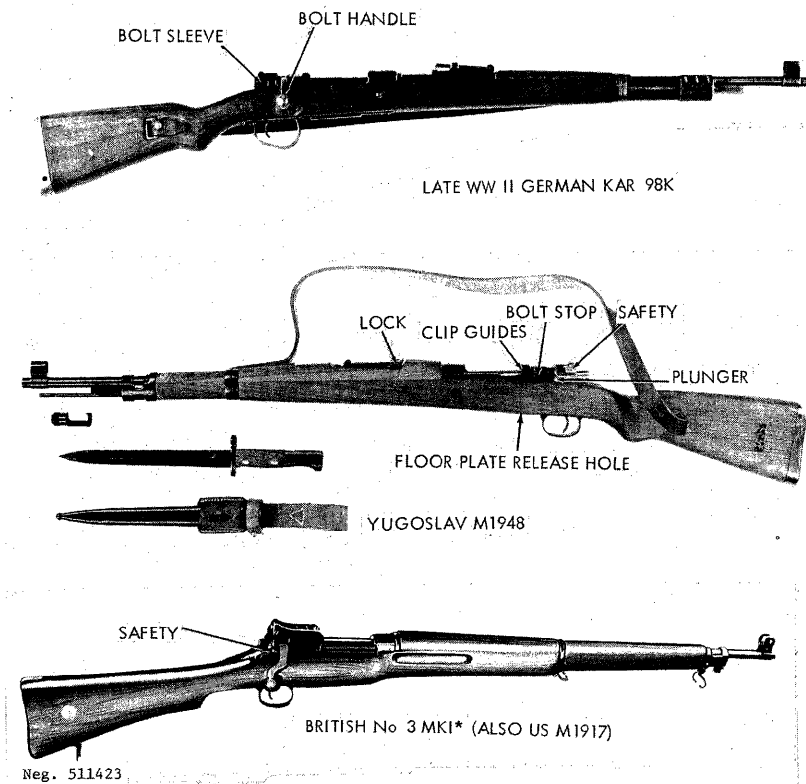
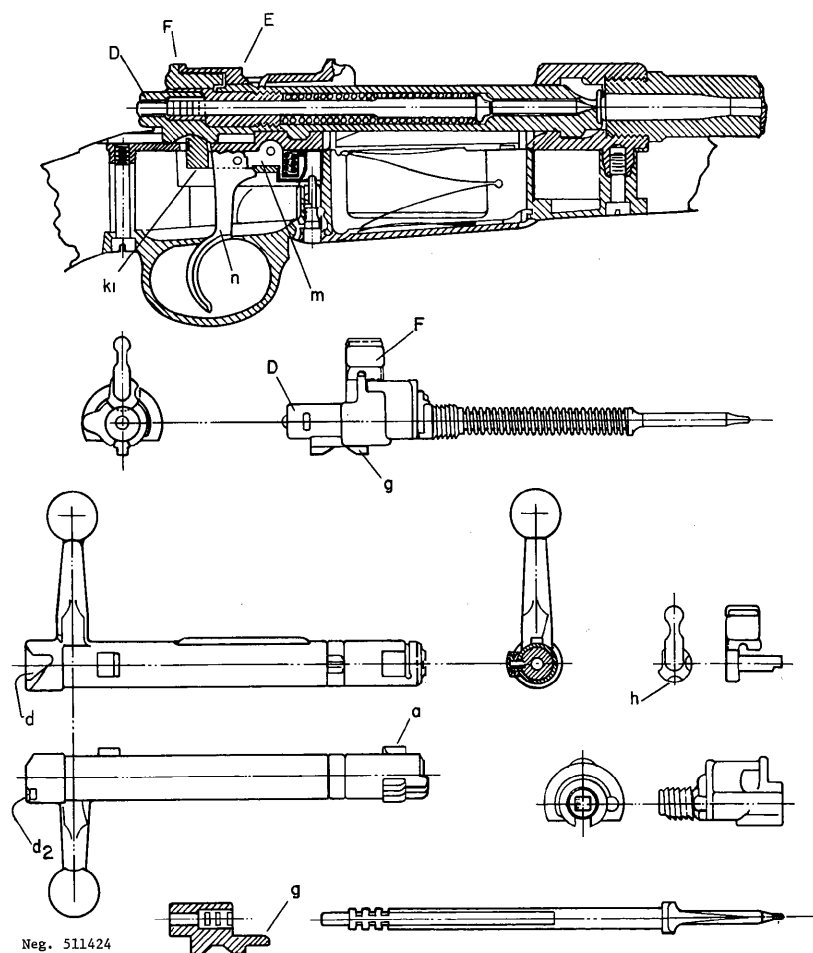

Figure 124. Typical Mauser rifles.
Figure 125. Mauser rifle section.
a. The Mauser Model 1898 rifle (fig 124) was the final refinement of a series of German rifles whose basic design began in 1871. The 1898 was developed just before the turn of the century, and after final improvements (in the early 1900's), its use spread throughout the world. There are few nations who did not use the 1898 or a rifle whose design was based on it. The prime producer of this rifle was Germany, but many other nations produced it under license. Belgium, Spain, Czechoslovakia, Poland, China, and Yugoslavia were the major non-German producers; however, the Mauser company exercised close supervision over production, and as a result, most of these rifle parts are interchangeable regardless of country of manufacture. This results in some current 1898's bearing markings of several countries. In addition to true 1898's, variants such as the US M1903 and 1917 rifles and the British No. 3 Mark 1\* are based on the 1898 design. The final model of the original 1898 Mauser is the Yugoslav M1948 rifle (fig 124).
a. Open the bolt by turning the bolt handle (fig 124) up as far as possible; then pull the bolt fully rearward.
b. Load the magazine by placing a charger clip of five cartridges into the clip guides (fig 124). Hold the thumb as close as possible to the charger clip and press the cartridges down into the magazine. If desired, remove the clip and save it for reuse; otherwise, the forward movement of the bolt will expel it. If clipped ammunition is not available, place individual cartridges on the magazine follower and press them down until they roll sideways under the feed lips. Repeat this action until five cartridges have been loaded into the magazine. To prevent damage to the extractor, always load by inserting the cartridges, even single ones, into the magazine; never load cartridges directly into the barrel.
d. If desired, make the rifle safe by swinging the safety (fig 124) to the right; this locks the firing pin and bolt. On US M1917 and British No. 3 Mark 1 (fig 124) rifles, rock the safety to the rear.
e. To fire the weapon, swing the safety to the left, or press it forward (US M17 type), set the sights for the desired range by pressing the locks (fig 124) and sliding the bar along the sight leaf until the top of the bar is aligned with the number on the leaf corresponding to the range in hundreds of meters. (Lift the leaf up before doing this on the M17 or No. 3 rifles.) Using a normal sight picture, aim and squeeze the trigger. The rifle will fire one shot.
a. When disassembling the weapons, unload (para 149g) but do not pull the trigger. On an M17 or No. 3, open the bolt, set the safety to the rear, and close the bolt as far as possible. Insert a coin between the firing pin nut and bolt sleeve. On all other rifles, leave the safety in the vertical position. Open the bolt and press the bolt stop (fig 124) outward. Hold the bolt stop out and pull the bolt from the rifle.
b. On the left side of the bolt sleeve (fig 124) there is a plunger (not present on M17 or No. 3 rifles); press it in. Unscrew the bolt sleeve and pull the firing mechanism from the bolt.
c. Using the point of a cartridge, press in on the floor plate catch through the hole (fig 124) in the floor plate.
b. As the bolt handle is turned upward, a cam in the rear of the bolt (d, fig 125) forces the firing pin nut and firing pin rearward, compressing the firing spring. The root of the handle also cams against the receiver to provide powerful leverage for initial extraction of the fired cartridge. The firing pin unit has a lug on its underside which overrides the sear when the handle is turned fully up.
d. The zigzag magazine spring has forced a fresh cartridge up, under the receiver feed lips. As the bolt is shoved forward, it pushes the cartridge out of the magazine, and the cartridge rides up the bolt face under the extractor. The locking lugs (a, fig 125) are reseated in their abutments in the receiver by rotating the bolt handle downward.
e. The trigger (n, fig 125), is pinned to the sear (m, fig 125), and has two humps on its top where it bears against the bottom of the receiver. When the trigger is pressed, the front hump (closest to the pin) acts as a lever to move the sear down. At this stage, the trigger pull has been very light, but as the second hump, at the rear of the trigger contacts the receiver, a definite stop is felt and increased trigger pressure is necessary to completely disengage the sear from the lug on the firing pin nut. When these disengage, the firing spring drives the firing pin forward and fires the cartridge.
f. This rifle has two safety features: the manual safety and an automatic safety. The manual safety (fig 124) is operated by swinging it to the left; this interposes a solid portion of the safety (f, fig 125) in front of the firing pin nut and cams the nut slightly rearward, off the sear. At the same time a section of the safety shaft rotates into a fore-and-aft cut (d2, fig 125) in the rear of the bolt; this locks the bolt closed. The automatic safety is the cocking cam (g and d, fig 125) in the bolt; if the bolt is not completely locked, the cam on the firing pin nut will force the bolt closed by engaging the cam in the bolt. These cams prevent the firing pin from going completely home unless the bolt is rotated to a fully locked position.